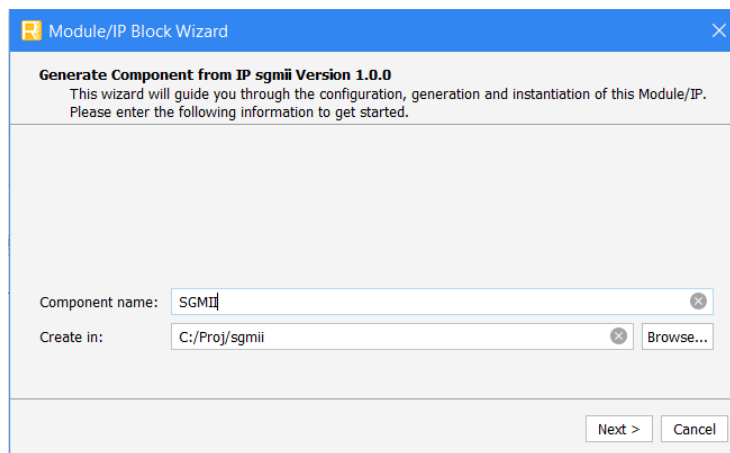

Figure 3.1. Module/IP Block Wizard
2. In the **IP Catalog** tab, double-click on **SGMII and Gb Ethernet PCS** under **IP, Connectivity** category. The **Module/IP Block Wizard** opens as shown in Figure 3.1. Enter values in the **Instance name** and the **Create in** fields and click **Next**.
- Click the **Finish** button. All the generated files are placed under the directory paths in the **Create in** and the **Instance name** fields shown in Figure 3-1.